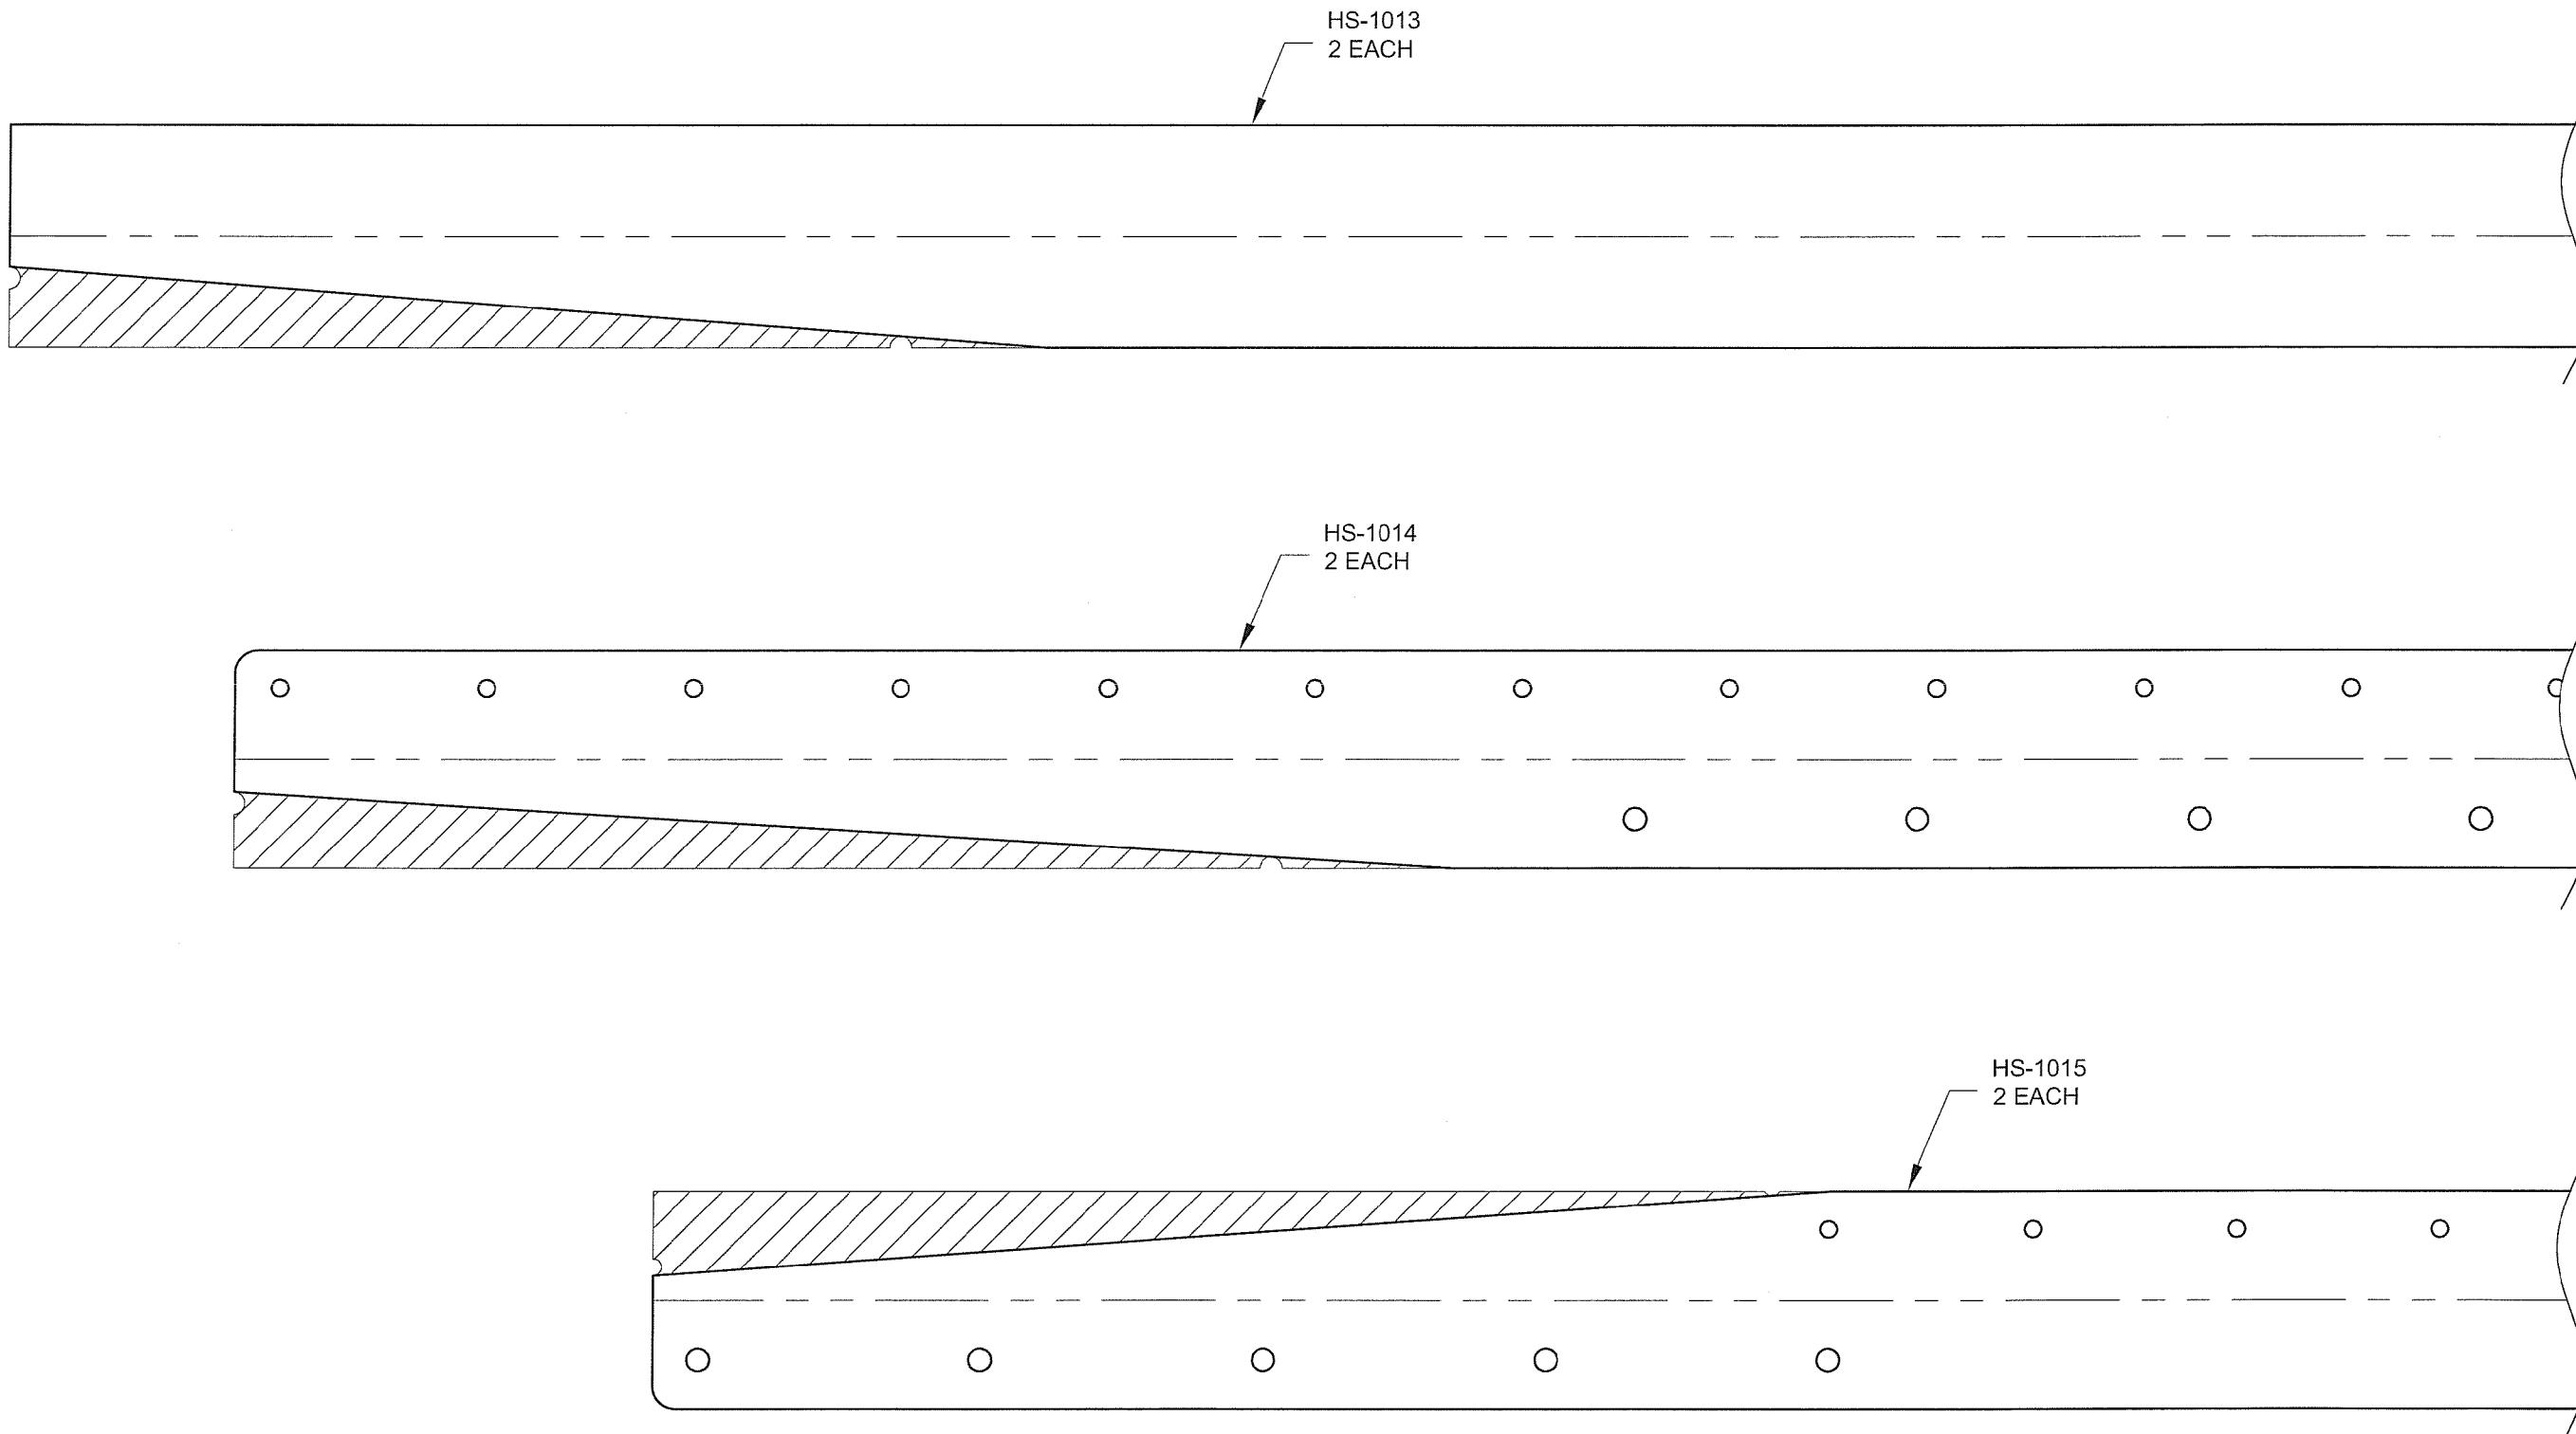

**FIGURE 4: RIGHT FRONT SPAR ATTACHMENT BRACKET**
Step 4: Repeat Step 3, but use the dimensions in Figure 4, to make the HS-1008-R Right Front Spar Attachment Bracket.